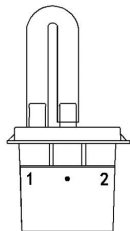

Figure 4
9. Bend the outer port (endoscope) tubing toward the center port. Connect the free end of the outer port (endoscope) tubing to the center port, covering both the ports with a single tube (see Figure 4).